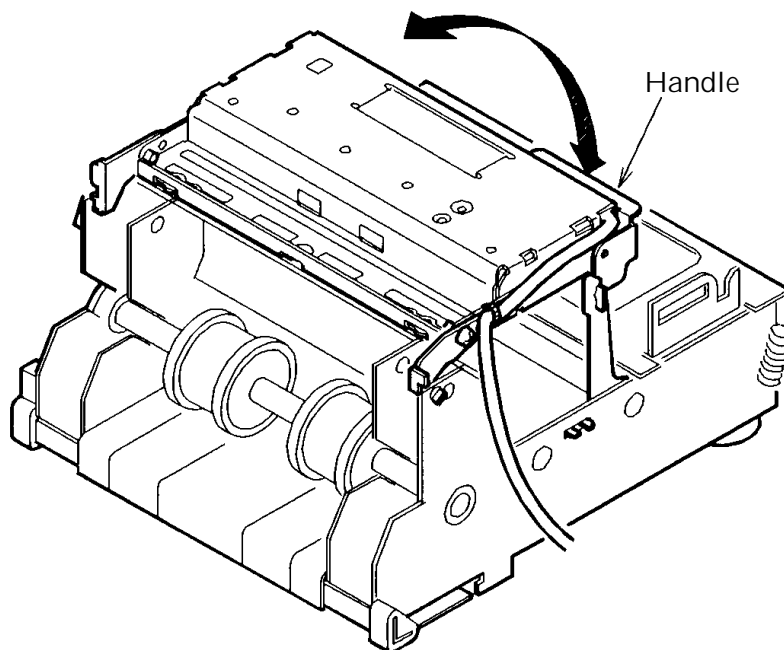

Fig. 2
(4) How to Open the Auto Cutter (See Fig. 2.)